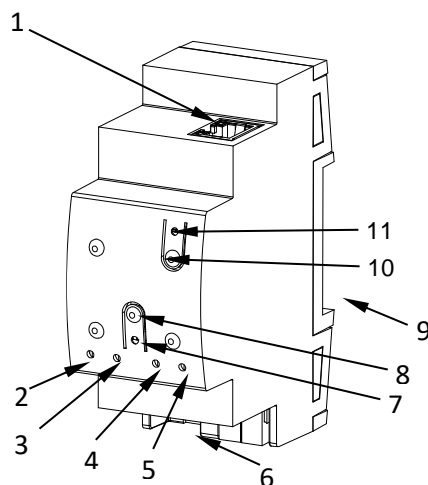

Figure 1 Element Diagram
Figure 1 shows a scheme with all the LED indicators and required connections. This device does not require an external power supply, it is powered through the KNX bus.
The programming button (8) shown in Figure 1 may be pressed to set KIPI-RC in **programming mode**. After a short press, the programming LED (7) will light in red.